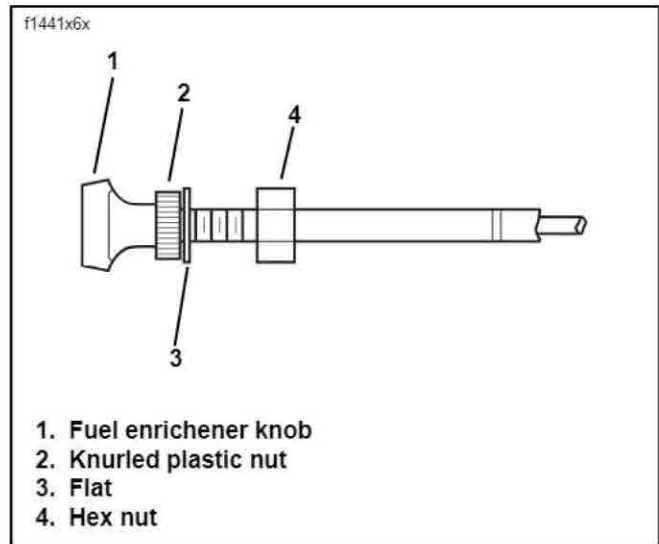

Figure 9. Enricher Control
See Figure 9. Check fuel enricher operation. The fuel enricher knob (1) should open, remain open and then close without binding. The knurled plastic nut (2), next to the enricher knob, controls the ease or difficulty with which the cable slides within the cable conduit.
1. Loosen the hex nut (4) at the backside of the mounting bracket.
3. Hold cable assembly at flat (3) with an adjustable wrench. Turn knurled plastic nut (2) by hand to set sliding resistance.
4. Position cable assembly in the slot in the bracket. Tighten the hex nut (4) at the backside of the bracket.